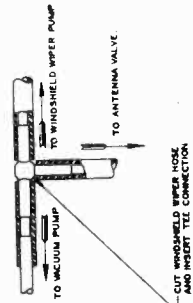

FIG 6
13. Cut windshield wiper hose and insert the tee connection. Attach the 40-inch length of hose to the tee connection, as shown in Fig. 6.